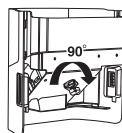

Figure 2
- If the bucket does not fit into its place, turn the gear handle on its back by 90 degrees and reinstall it again as shown in Figure 2.